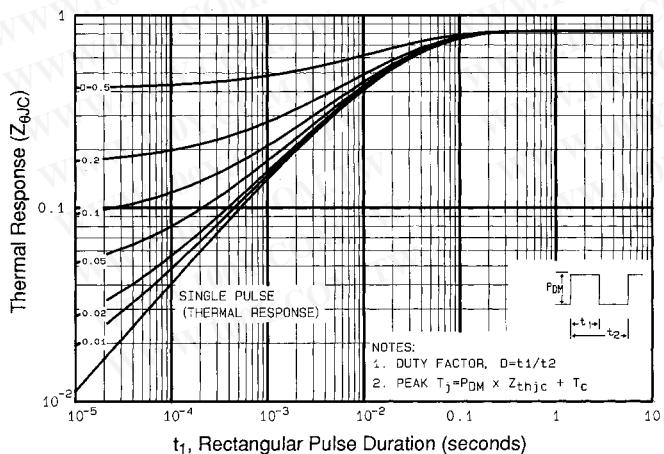

Fig 11. Maximum Effective Transient Thermal Impedance, Junction-to-Case
① Repetitive rating; pulse width limited by max. junction temperature (See Figure 11)
③ $I_{\text{SD}} \leq 8.8\text{A}$, $dI/dt \leq 100\text{A}/\mu\text{s}$, $V_{\text{DD}} \leq V_{(\text{BR})\text{DSS}}$, $T_J \leq 150^\circ\text{C}$ ② $V_{\text{DD}}=50\text{V}$, starting $T_J=25^\circ\text{C}$, $L=11\text{mH}$